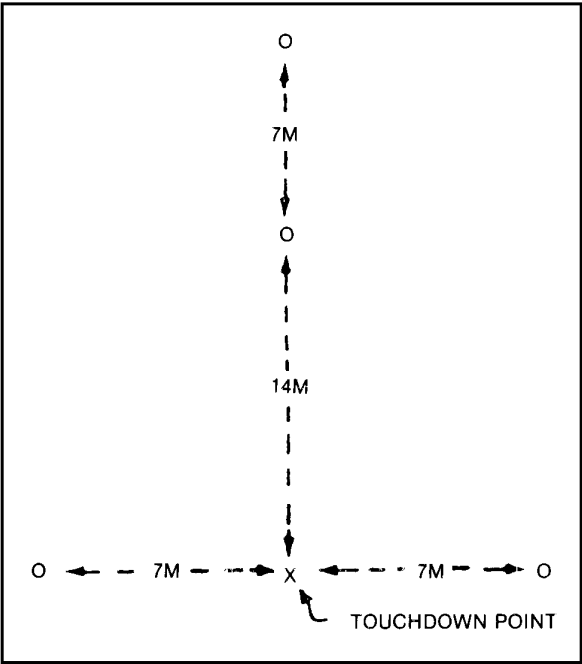

Figure 3-46
- b. At night, the landing site and touchdown point are marked by an inverted "Y" composed of four lights (Figure 3-46). Strobe lights, flashlights, or vehicle lights may also be used to mark the landing site. The marking system used will be fully explained to the pilot when contact is made.